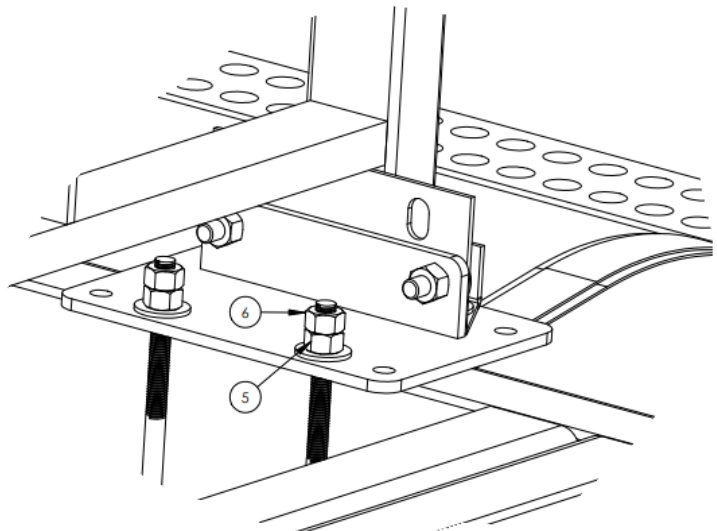

Figure 1.7: Installing Lock Nut
Once all u-bolts are in position, double check gantry frame location. Tighten down hex nuts (5) on u-bolt in a circular pattern until tight to ensure the u-bolts are clamped evenly. Use a ratchet and socket until tight, then torque each bolt to 150 ft-lbs. To prevent backoff, turn on one extra hex nut (6) to each u-bolt leg and tighten against hex nut (5) already in place, see *Figure 1.7*. It is recommended that after 3-months of use these bolts are re-torqued to account for any stretching.